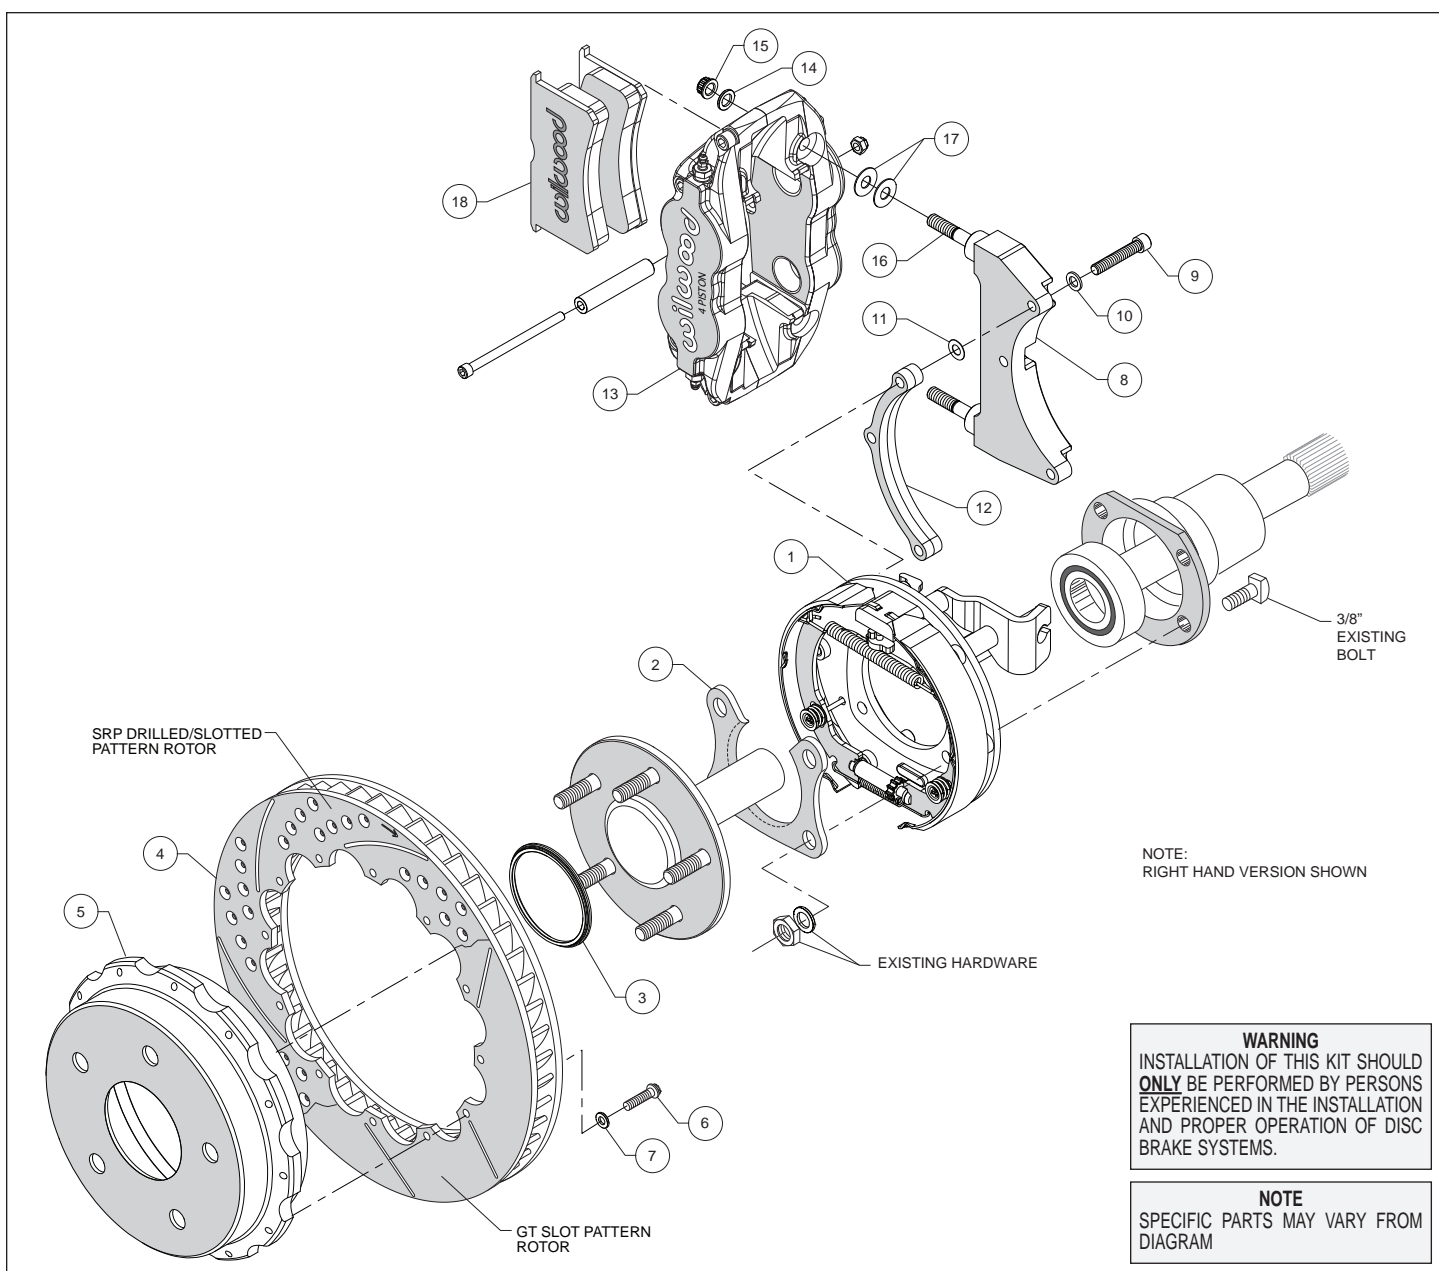
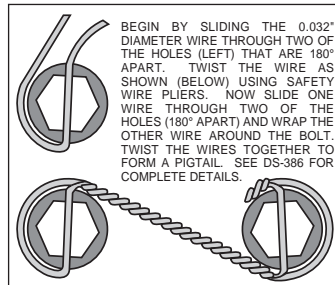

Figure 1. Typical Installation Configuration
Figure 5. Safety Wire Diagram
**Assembly Instructions** (numbers in parenthesis refer to the parts list, and Figure 1 on the preceding pages): **CAUTION:** All mounting bolts must fully engage clinch nuts. Be sure to check that all bolts are either flush or protruding through flanged side of clinch nut after shimming.
- Orient the bracket assembly (1) as shown in Figure 1 and Photo 1 and slide it onto the axle. Insert the axle and bracket into the axle housing. Ensure that the bracket assembly backing plate fits flush against the axle housing flange.
- Install the bearing retainer (2) with the opening pointing upward and the lip facing inward (toward the bearing), as shown in Figures 1 and 4, and Photo 2. Secure retainer and bracket assembly to the axle housing flange using the Original Equipment Manufacturer (OEM) bolts, washers, and nuts, Figure 1. Apply red *Loctite*® 271 to the OEM bolt threads and torque to OEM specifications.
•**NOTE:** Please reference the caution statement at the beginning of the assembly instructions. The caliper mounting bracket (8) should initially be installed with clean, dry threads on the mounting bolts. Orient the bracket as shown in Figure 1 and Photo 3, and install using bolts (9) and flat washers (10). Initially place one .015" shim washer (11) on each bolt between the bracket (8) and spacer (12), Figure 1. Temporarily tighten the mounting bolts. **NOTE:** End of bolt should not exceed inside face of insert. The bracket must tighten squarely against the back side of the bracket kit assembly (1). Inspect for interference from casting irregularities, machining ridges, burrs, etc. Later, after the caliper alignment has been checked, the mount bolts will be secured using red *Loctite*®.
•Orient the rotor (4) and the hat (5) as shown in Figure 1 and Photo 3. Attach rotor to hat using bolts (6) and washers (7). Using an alternating sequence, apply red *Loctite*® 271 to the threads, and torque to 140 **in-lbs**. For an added measure of security, the bolts may be safety wired using standard 0.032 inch diameter stainless steel safety wire as shown in Figure 5. Please refer to Wilwood's data sheet DS-386 (available at [www.wilwood.com/Pdf/DataSheets/ds386.pdf](http://www.wilwood.com/Pdf/DataSheets/ds386.pdf)) for complete safety wire installation instructions.
•Slide the rotor registration adapter (3) onto the axle register on the axle flange with the smaller O.D. facing toward the rotor/hat (4/5), Photo 5. Align the hole pattern in the hat with the stud pattern on the axle flange and slide into place, Figure 1 and Photo 6. **NOTE:** The rotor/hat must fit flush against the axle flange or excessive rotor run out may result. Install three lug nuts (finger tight) to keep the rotor/hat assembly in place while continuing with the installation. **NOTE:** Some OEM and after market axles come with stud sizes larger than 0.50" diameter. Verify stud size and have a qualified machine shop drill the bolt circle of the hat/rotor to the correct stud size, if necessary.
•Lubricate the caliper mounting studs (16) with lightweight oil. Initially place two .035" thick shims (17) on each stud as shown in Figure 1 and Photo 7. Mount the caliper (13) onto the bracket (8) using lock nuts (15) and washers (14), Figure 1. Temporarily tighten the lock nuts and view the rotor through the top opening of the caliper. The rotor should be centered in the caliper, Photo 8. If not, adjust by adding or subtracting shims (11) between the bracket (8) and the spacer (12). Always use the same amount of shims on each of the three mounting bolts. Once the caliper alignment is correct, remove the bracket mounting bolts (9) one at a time, apply red *Loctite*® 271 to the threads, and torque to 180 **in-lb**.